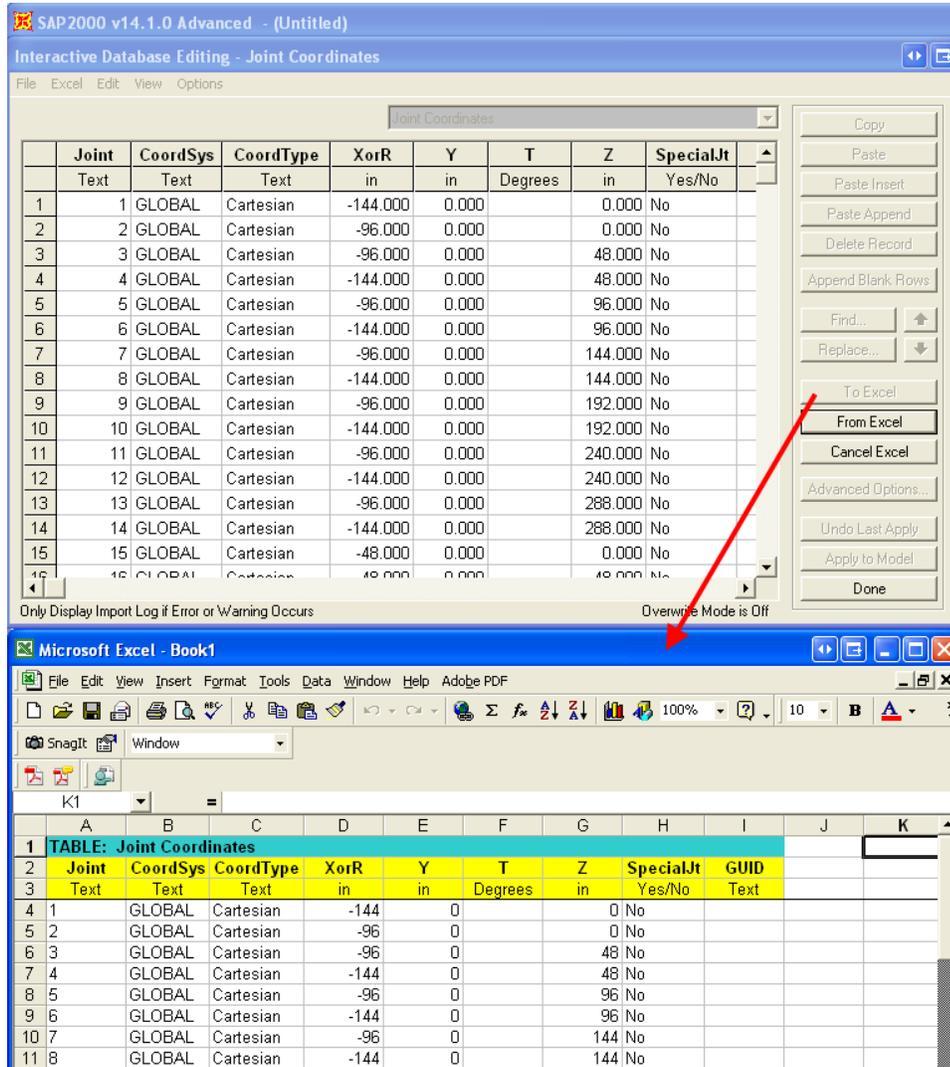

Figure 2 - Joint Coordinates
- To open the Joint Coordinates table in Excel, select OK, then select the Joint Coordinates table from the scroll-down menu, then select the To Excel option. The tables will be presented as shown in Figure 2: